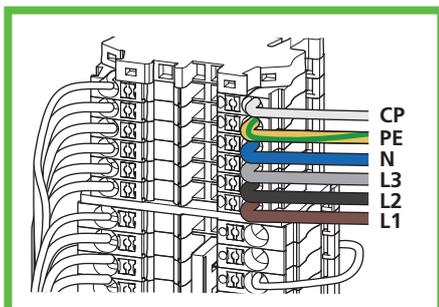

Fig. 13: Connecting the charging cable
- ▶ Connect the charging cable (Fig. 13).